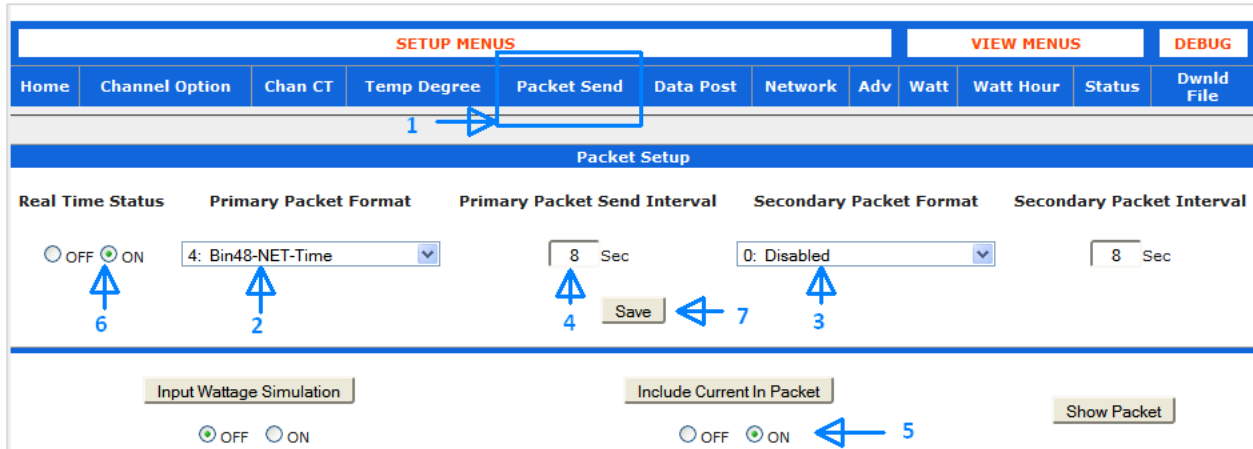

Figure 1
Packet setup is done via the GEM's setup page by clicking the "Packet Send" menu Figure 1 (1).
Refer to Figure 1.